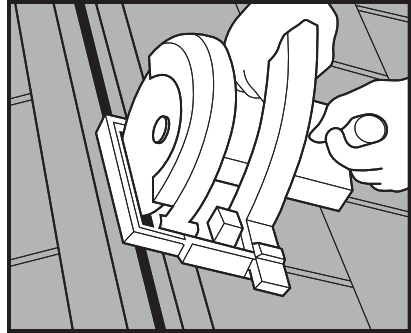

Fig. 1
IMPORTANT: Start and end your cut 6 inches in from the rake edges (snapping chalk lines will aid in keeping a uniform ridge opening). Set your saw depth to cut the decking only. Do not cut into the roof framing. See Figure 1.
3) Expose the vent slot opening by removing the decking that was just cut between the rake edges. See Figure 1.